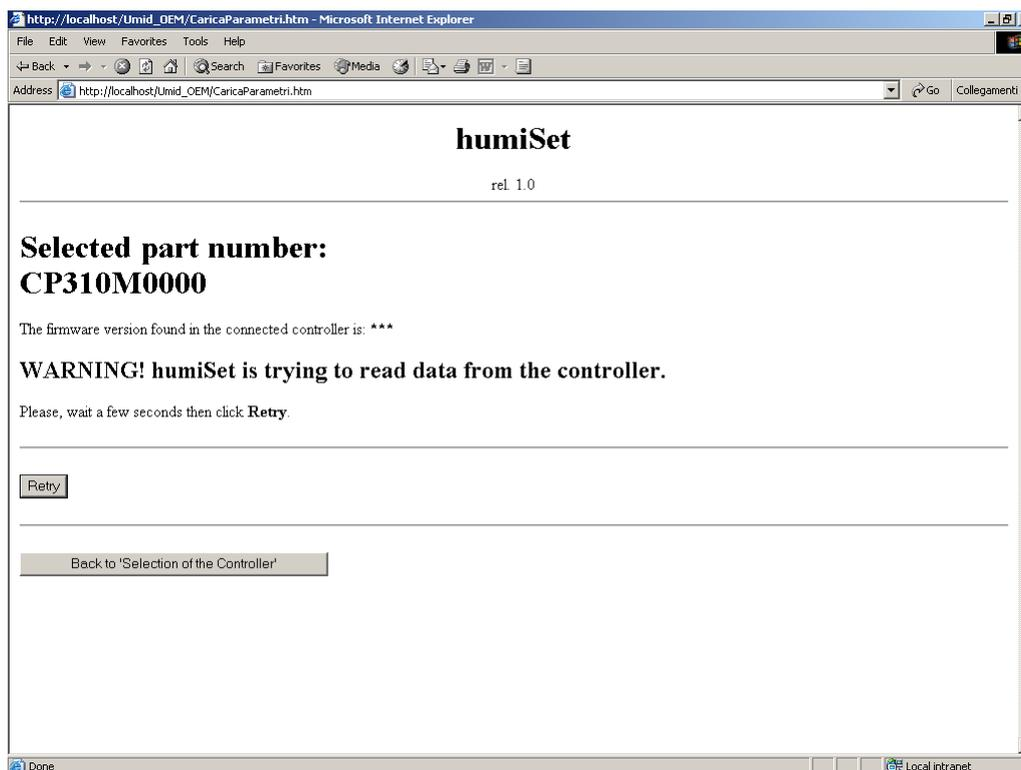

Figure 43
- The following page might be displayed during utilization of *humiSet* (Figure 43):